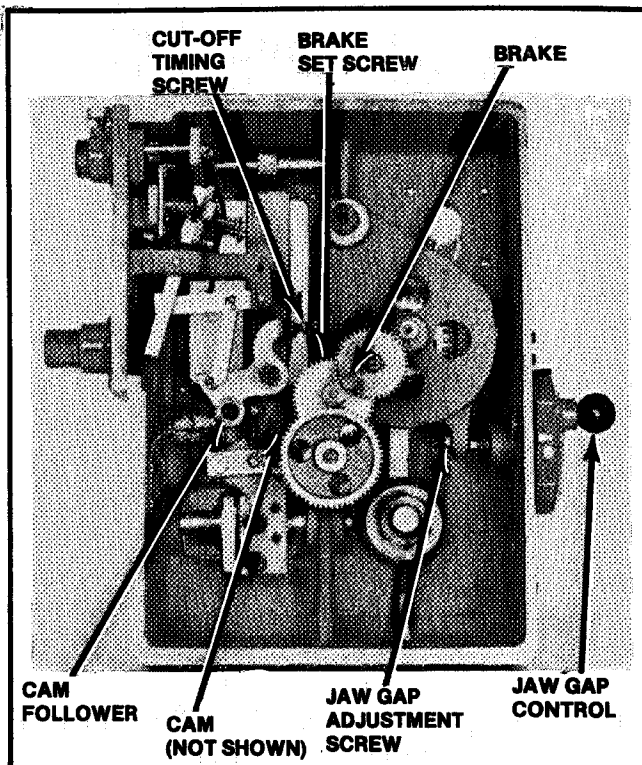

FIG. 12. JAW GAP ADJUSTMENT - REAR VIEW.
- (5) Opening between jaws should be 1/2-inch. If not, adjust gap by turning adjusting screw. See Fig. 12.
- (5) Opening between jaws should be 3/8-inch. If not, adjust gap by turning adjustment screw. See Fig. 12.
- (4) If there is cam overtravel, loosen the brake housing set gear. Move housing toward gear face and tighten set screw. See Fig. 12.
- (5) Move housing away from gear if there is cam undertravel.
- (6) Check adjustment by repeating step (1).